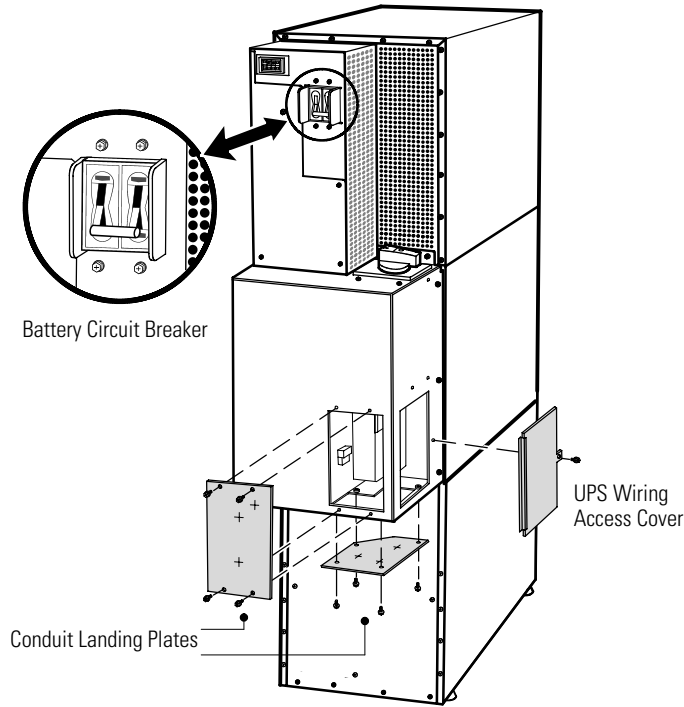

Figure 21. UPS Rear View (3-High Shown)
10. Verify that the UPS battery circuit breaker is in the OFF position (see Figure 21).